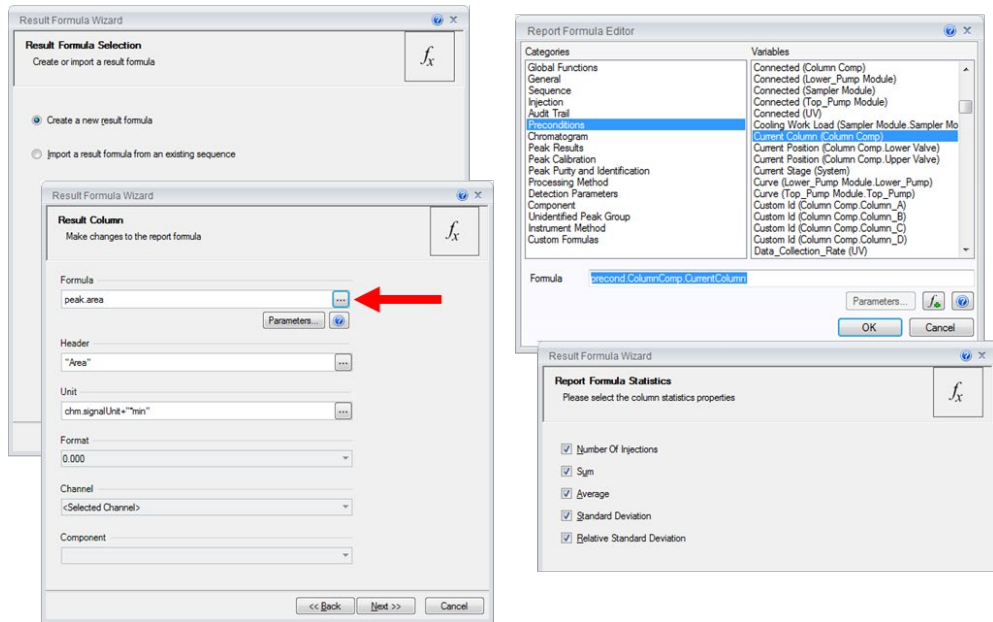

Figure 17: Result Formula Wizard
- c. For each injection, the current column is now displayed in the sequence view of the Chromeleon console (Figure 17).